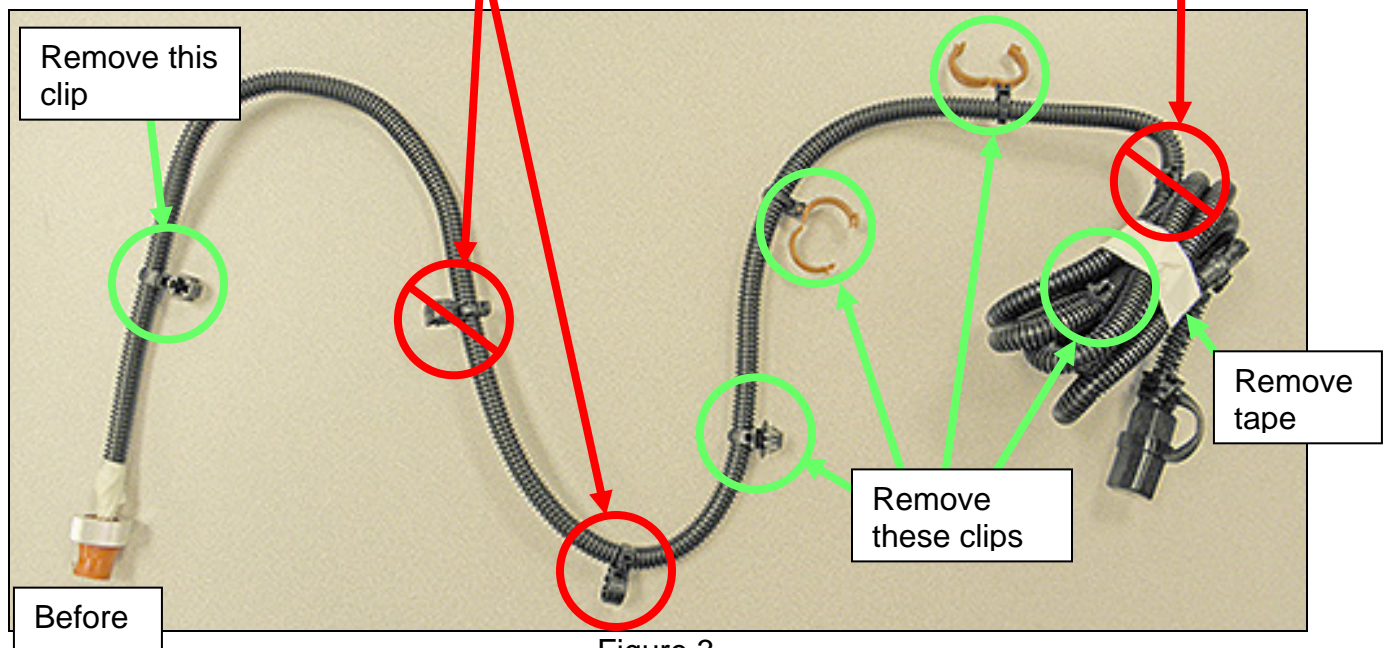

Figure 3
- c. Remove the clips circled in green that are shown in Figure 3 from the cord.
- Do not remove the three (3) clips that are circled in red in Figure 3.
- In Figure 3, two (2) retained clips are hidden in the coiled cord.